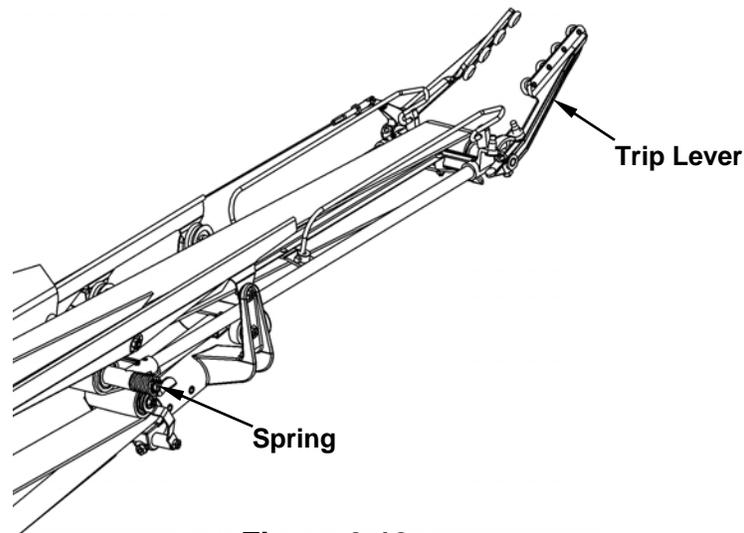

Figure 2-13
2. As a pin transfers from the distributor belt onto the trip lever, the weight of the pin causes the lever to pivot downward as the pin is deposited in the bin. Afterwards, the trip lever returns to the up position from the force of a spring located at the rear of the carriage tube (see Figure 2-13). This tripping and resetting action actuates the trip rod allowing the distributor to index to the next bin position. The spring tension is factory set for 1/2 turn. Too little spring tension (worn or damaged spring) would cause the trip lever to deflect too soon causing the distributor to index before the pin has cleared the trip lever resulting in misfed pins.